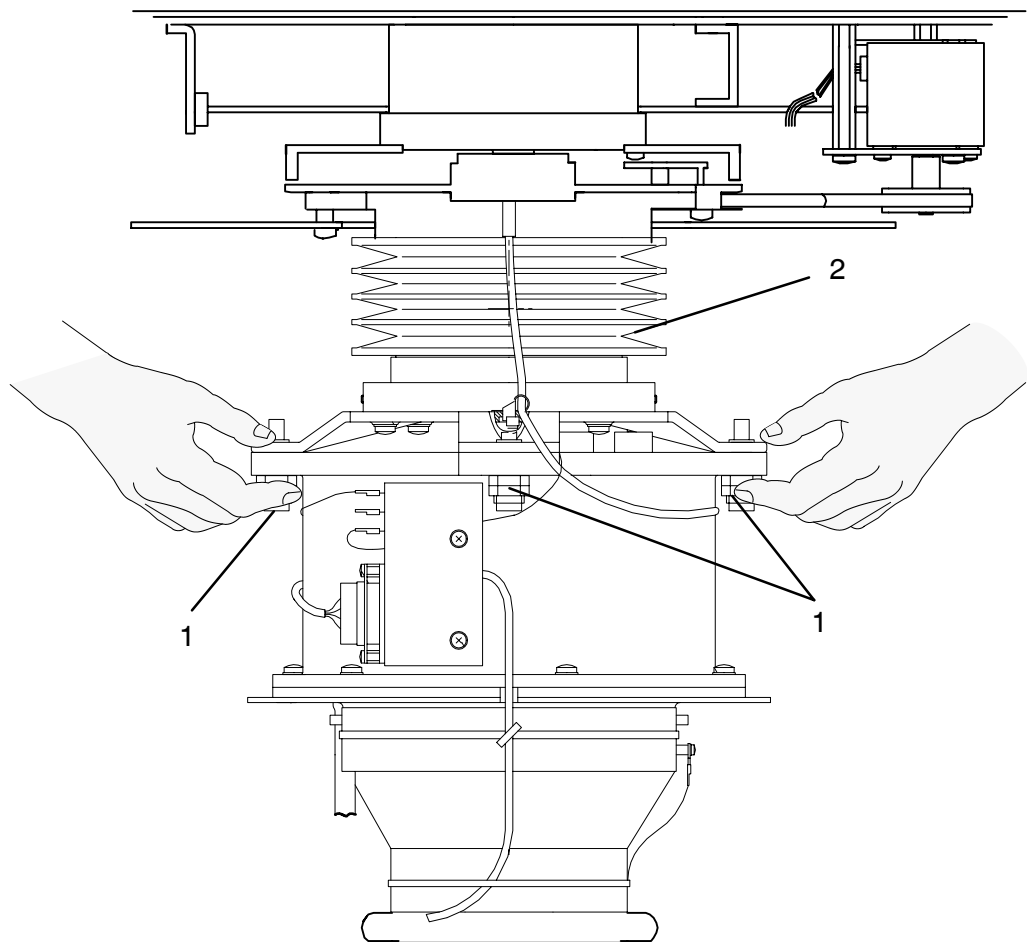

Figure 13: Principle of inserting the outer sphere in the compass enclosure
(see Figure 13)
- Using both hands, hold the outer sphere and guide it under the snap closures (Figure 13/1) on the pendulum joint (Figure 13/2).
- Using the thumbs, press down and engage two snap closures (Figure 13/1).